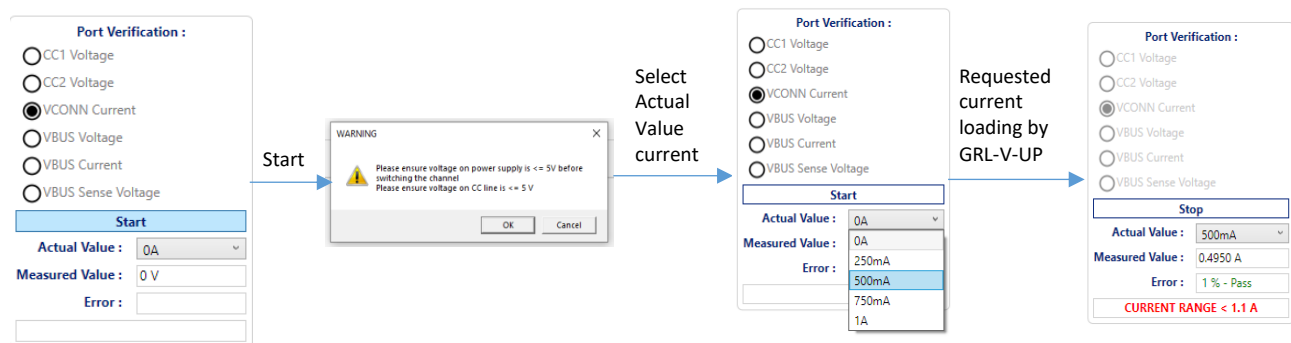

FIGURE 4.11: VCONN CURRENT CHANNEL VERIFICATION
2. See Figure 4.11 for the following procedure: